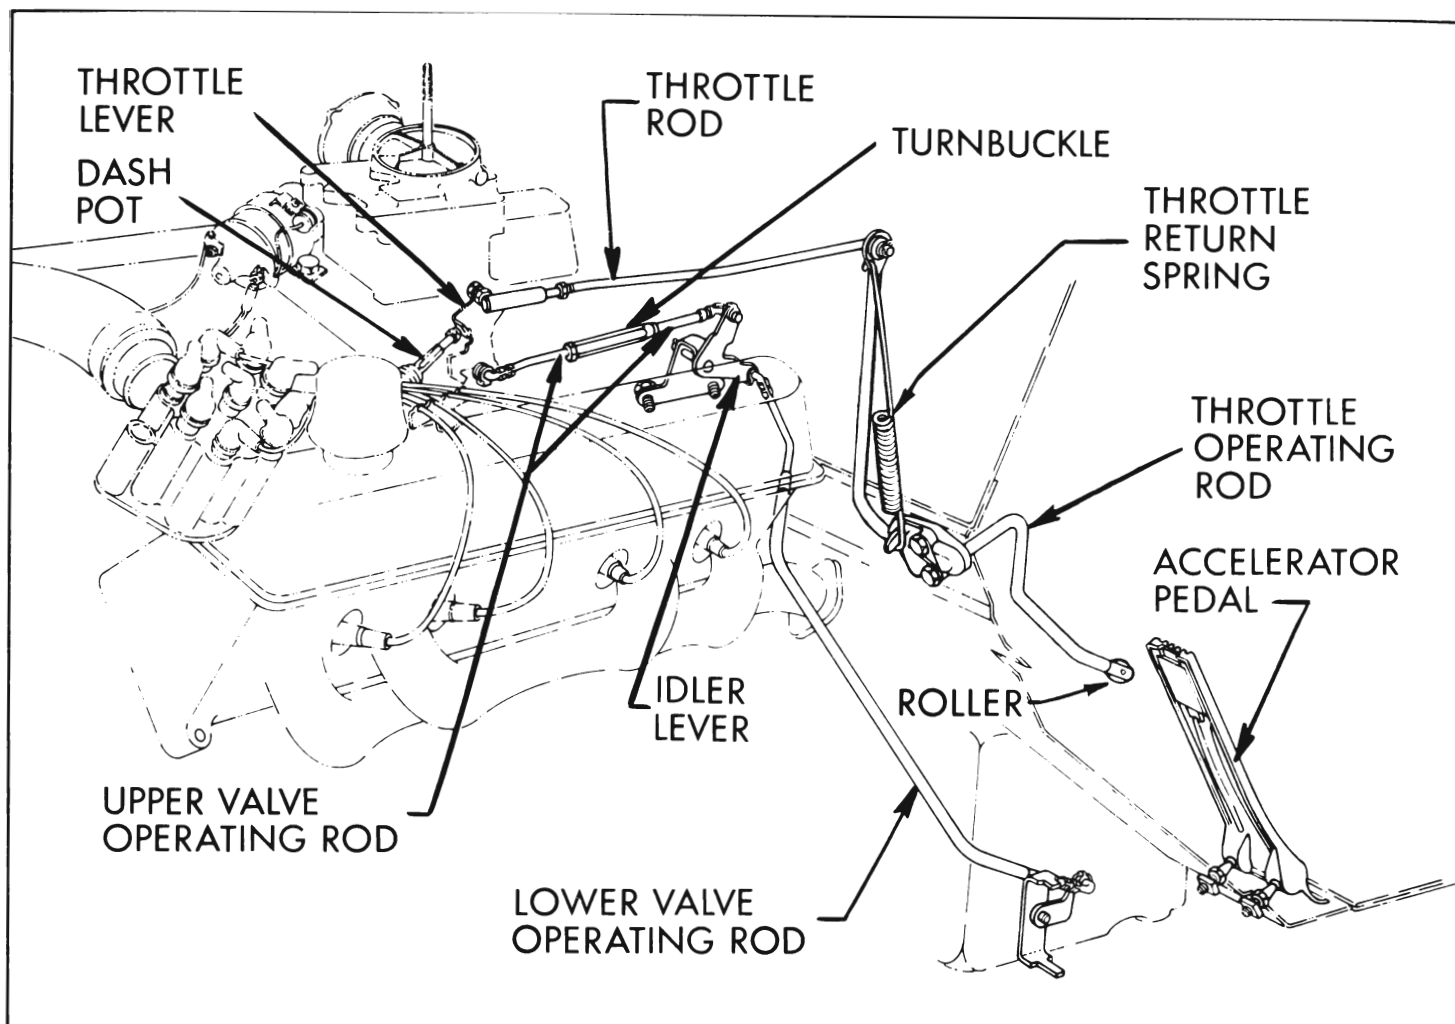

Figure 3-17—Throttle and Transmission Control Linkage (Automatic Transmission)
4. Disconnect rear end of throttle rod from throttle operating lever. See Figure 3-17.